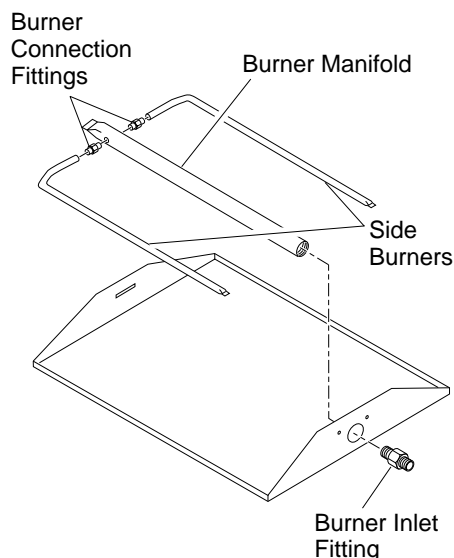

Figure 8 - Installing Burner
2. Place burner manifold in pan with threaded opening facing open knockout plug (see Figure 8). Make sure the burner ports face downward.
6. Press the right and left side burners onto the burner connection fittings. The burner porting should face downward (see Figure 8).